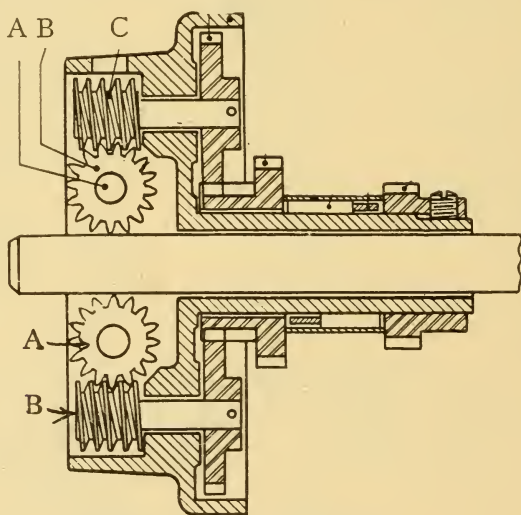

FIG. 90.—Positive feed unit.
(54) This part, shown in full detail in Fig. 90, serves to rotate and to feed the positive carbon forward as fast
(55) The entire unit illustrated in Fig. 90, operates in high temperature and so its working parts must be kept well lubricated. We have always recommended a mixture of powdered graphite and kerosene but some lamp manufacturers object, claiming that the graphite binds the parts. That may be true of graphite grease but a well powdered, pure graphite will not bind up the parts and is one of the best high temperature lubricants known to science. A high grade automobile oil is also good. Whatever you use it is important to keep the parts well lubricated. Graphite, if used, must be in powdered form, mixed with kerosene. The kerosene will burn away at once leaving the part lubricated with dry graphite.